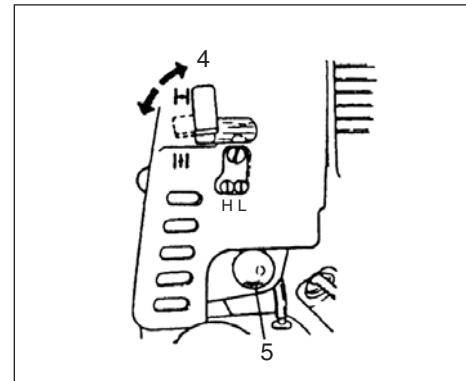

Fig.2-3
- *Push priming bulb (5) several times so that fuel flows through return pipe (If so equipped)(Fig. 2-3)
2. With the safety trigger (2) pressed (if so equipped), pull throttle trigger and push throttle lock (3), then slowly release the throttle trigger first, then the safety trigger. This will lock the throttle in starting position.
(Fig. 2-3)